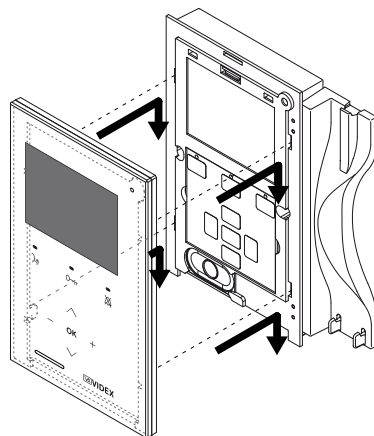
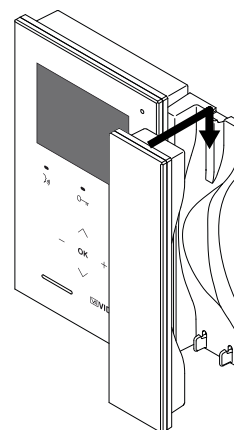

Fig. 4a
Fig. 4b
4. Once the videophone is fixed to the wall, place the front plate against the videophone by inserting the hooks in the corresponding openings and hook the plate by pushing it down as shown in **Fig. 4a** and hang the handset as shown in **Fig. 4b**.
- Remove the front plate doing the contrary of what is shown in **Fig. 4** and **Fig. 4a**;
- Hang up the front plate as shown in picture **Fig. 4** and **Fig. 4a**; before the display turns off;